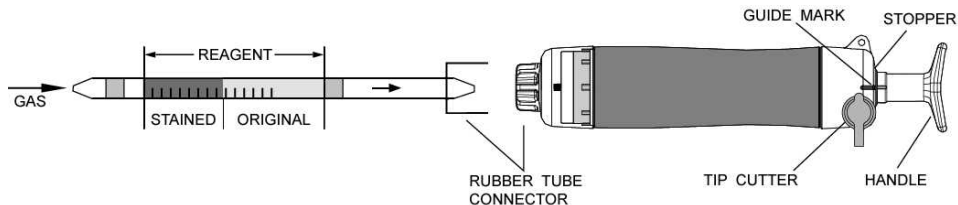

Fig.1
- ① Break both ends of the detector tube.
- ② Insert the detector tube into the aspirating pump securely as shown in Fig.1. (Arrow mark shall point to the pump.)
- ③ Align the guide marks on the shaft and stopper of the aspirating pump.
- ④ Pull the pump handle at a full stroke until it locks and wait for 1 minute or until the completion of sampling is confirmed with the flow indicator of the pump (See descriptions about the flow indicator in the instruction manual of the pump).
- ⑤ Turn the pump handle right or left by 1/4 (90°), push back the handle without removing the detector tube from the pump. Then repeat the steps ③ to ④ twice again.
- ⑥ On completion of sampling, read the scale at the maximum point of the stained layer.
- ⑦ When the concentrations are below the scale range, 6 pump strokes can be used to determine these lower concentrations.
- ⑧ When the concentrations are over the scale range, a 1 pump stroke can be used to determine these higher concentrations.